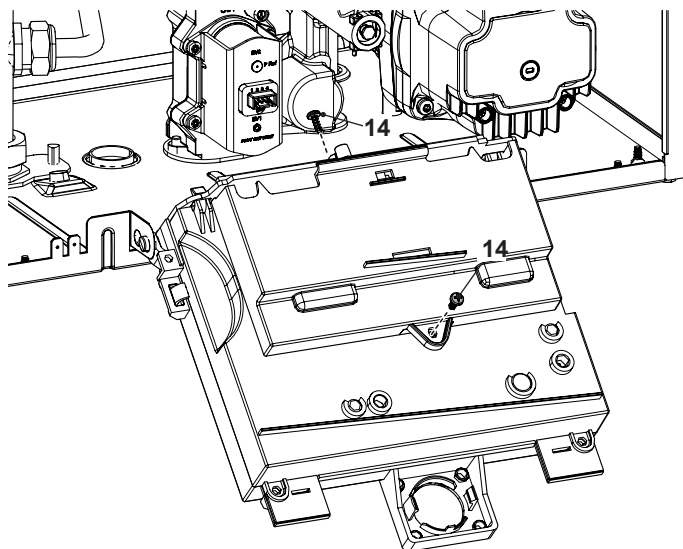

Figure 2.7
- 5 Unscrew the screw "14" (Figure 2.7).